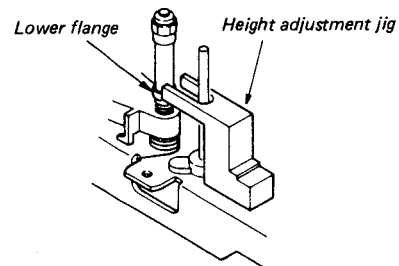

Fig. 1-3-19 No. 3 guide preset
2. After the replacement, preset height of the lower flange as shown in Fig. 1-3-19, using the guide height gauge.
3. After completion of preset, perform adjustments by following the procedures for Linearity Adjustment, item 4) of the Tape Transport Adjustment. (Refer to 1-4-4 (3).)